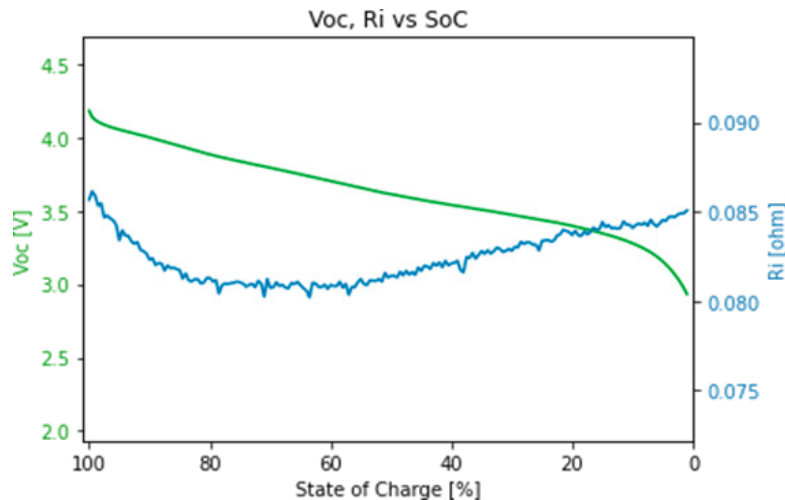

Figure 3. Battery profile created with Keysight BV9210B/11B PathWave BenchVue Advanced Battery Test and Emulation software
It is important to profile and characterize batteries for several reasons. You need to understand the amount of energy the battery can store and supply as a battery discharges over time. The open-circuit voltage (VOC) and internal resistance (IR) vary as the battery discharges. It is crucial to map these out, so that battery profiles accurately reflect the real-world performance of the battery. Figure 3 is an example of a typical plot.
A battery emulator works in multiple steps. The first step is loading a battery profile. This profile is the data from a plot of the battery voltage and internal resistance versus the SoC which appears in Figure 3. You can create a battery profile by using battery modeling software to measure the profile or by receiving a profile from a battery supplier.